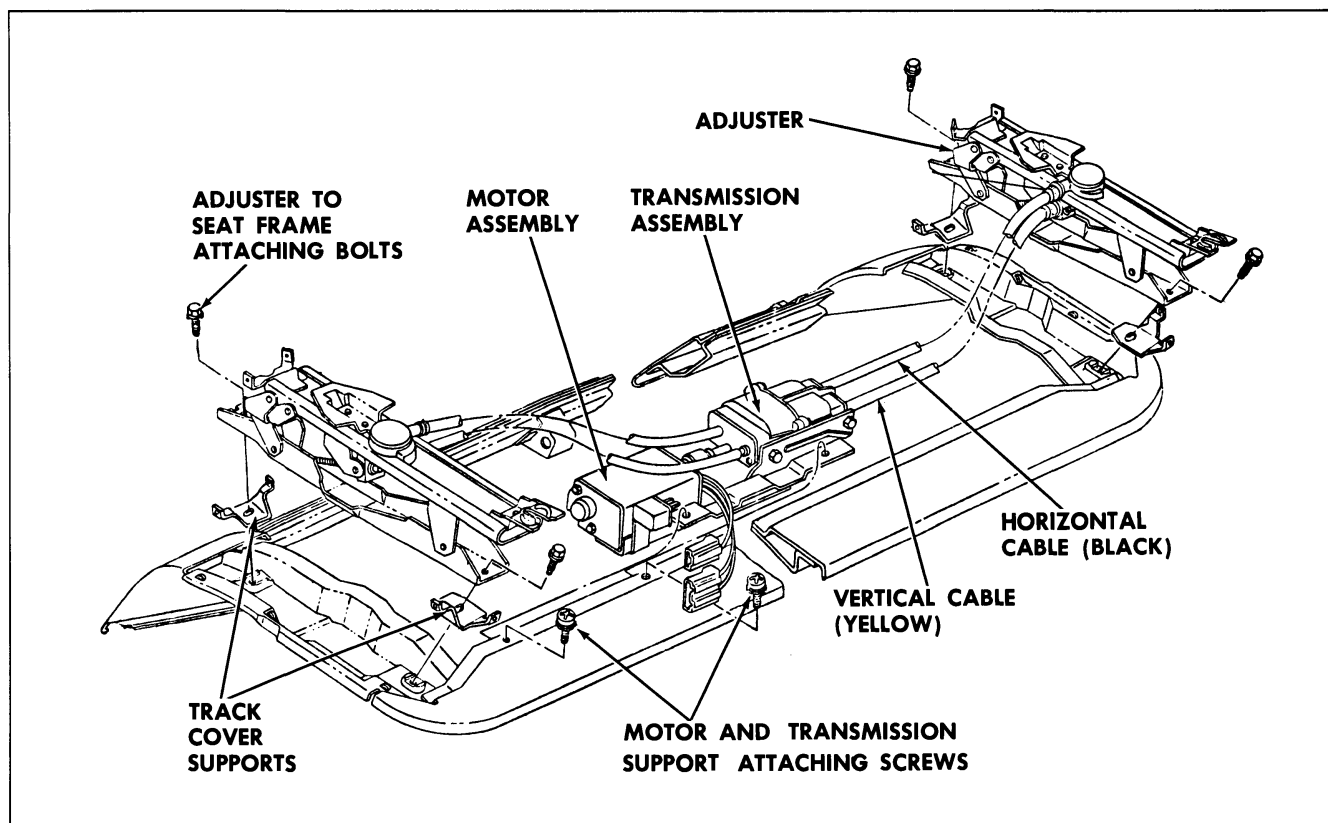

Fig. 17-5 Tilt Seat Operating Parts
2. Remove front seat from body with attached adjusters, motor and transmission and place upside down on a clean protected surface. (Fig. 17-5).
4. Remove adjuster-to-seat bottom frame front and rear attaching bolts and remove adjuster from seat. (Fig. 17-5).
5. To install seat adjuster, reverse removal procedure. Black cable attaches to horizontal actuator. (Fig. 17-5).
2. Remove seat adjuster-to-seat bottom frame front and rear attaching bolts on side affected (Fig. 17-5).
scribed and place upside down on a clean protected surface (Fig. 17-5).
3. Remove screws securing motor and transmission support to seat bottom frame. (Fig. 17-5).